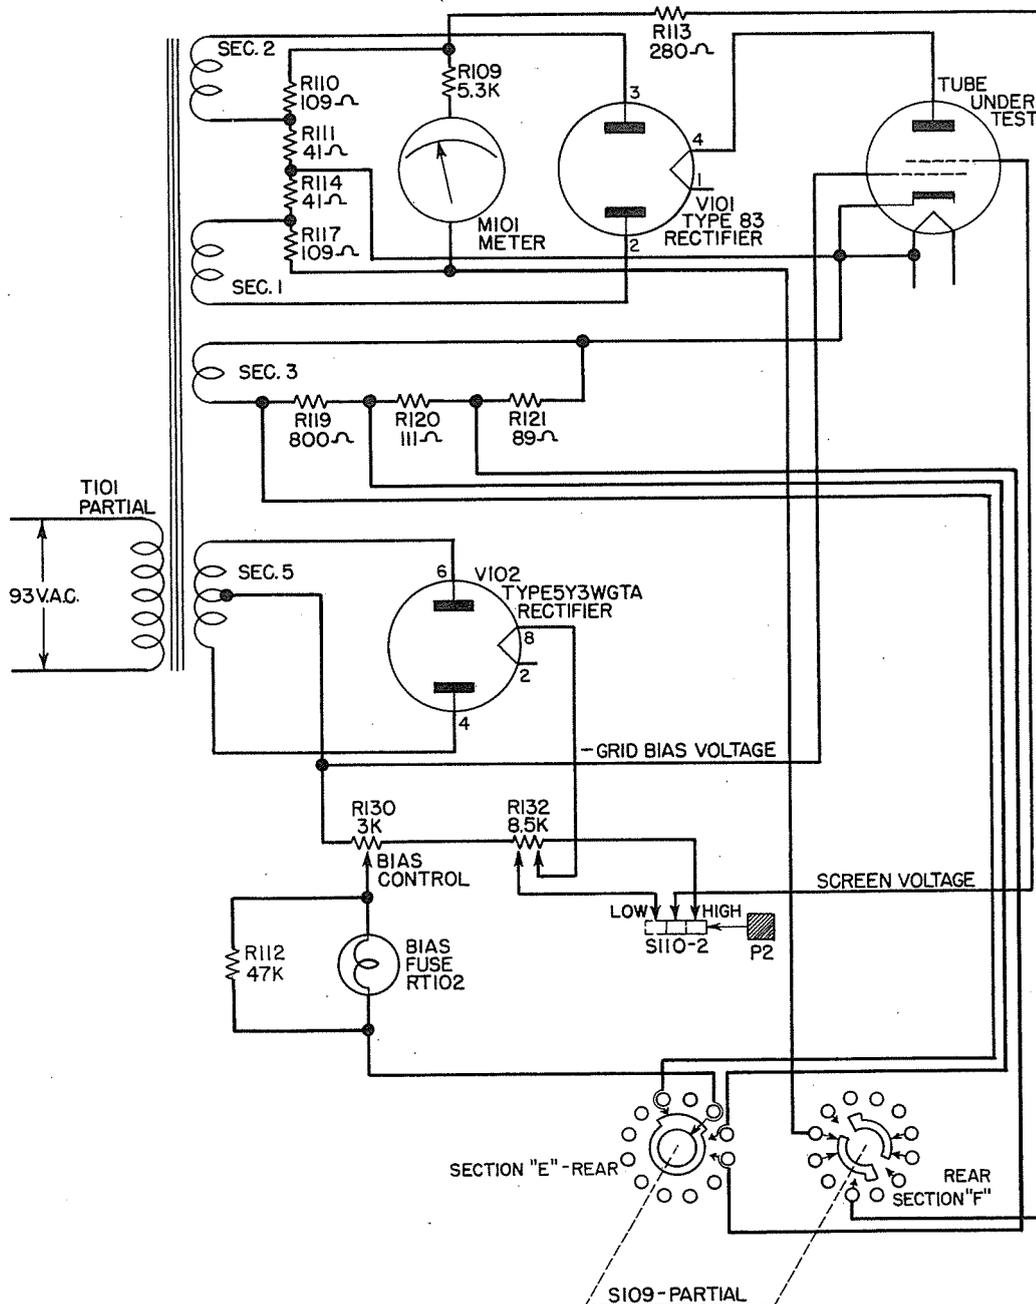

Figure 2-7. Simplified Mutual Conductance Test Circuit
## 8. MUTUAL CONDUCTANCE. (See figure 2-7)
f. The normal screen voltage of 130 volts is excessive for testing certain tubes such as type 1R5. In such cases it is necessary to press push button P2 before pressing the red push button P3. Pressing P2 operates switch S110-2 and reduces the screen voltage to approximately 56 volts as illustrated by Figure 2-7.